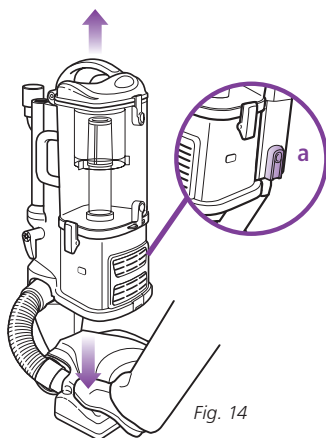

Fig. 14
- 1 Separate the portable *Lift-Away*® canister from the floor nozzle by pressing the red release button (a) on the side of the canister. Gently hold the nozzle to the floor with your foot and pull the canister up. (Fig. 14)